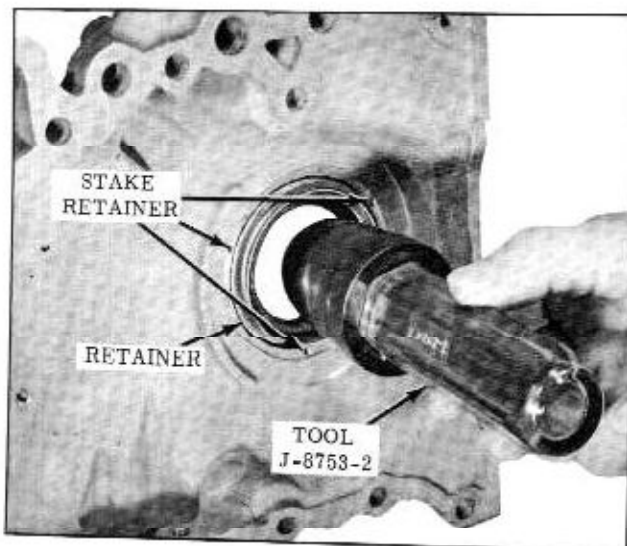

Fig. 8-40 Sizing Front Seal
4. Place Tool J-8753-2, in seal and push tool a little at a time from both sides of the seal until tool goes through seal. (Fig. 8-40)